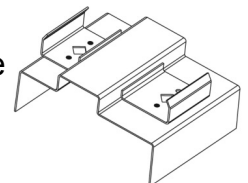

FIGURE 4
Position mullion bracket so scribe line centers in diamond window and the depressed tab rests firmly against the stop on the 1-3/4\"(44) & 1-3/8\"(35) rabbets. (Figure 4)